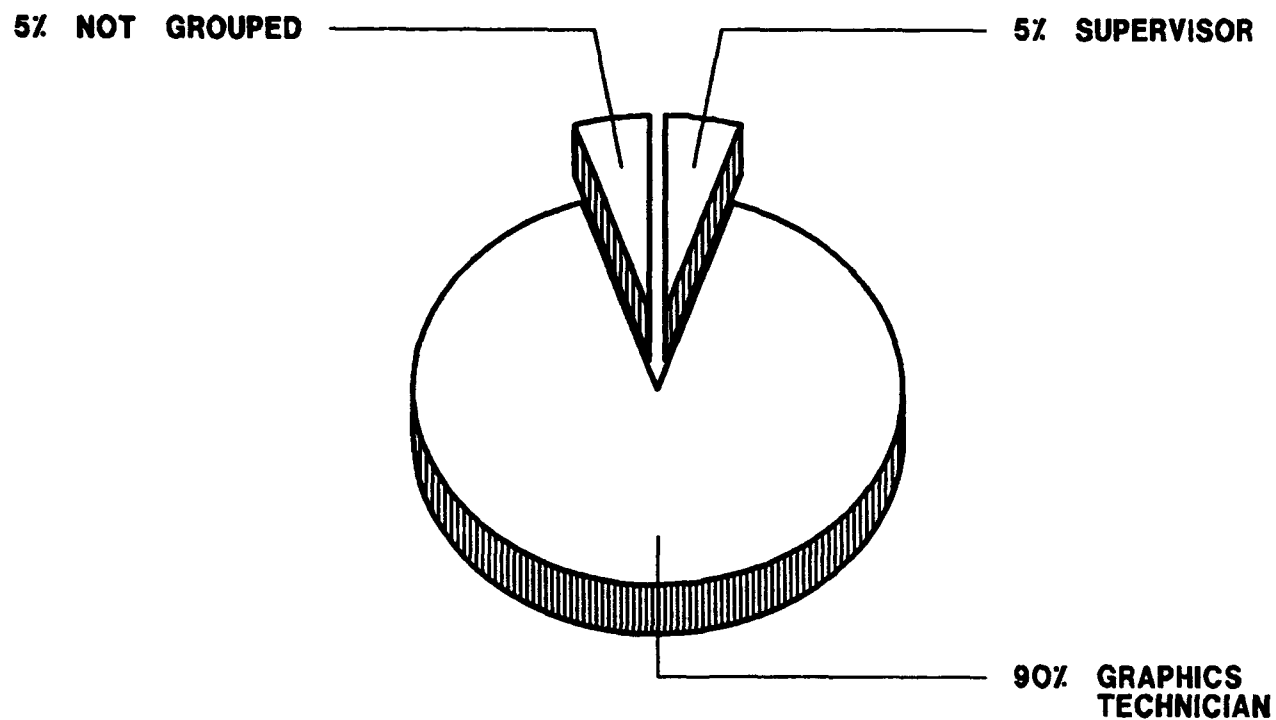

Figure 1
Based on the similarity of tasks performed and the amount of time spent performing each task, two clusters were identified within the survey sample. Figure 1 illustrates the division of jobs performed by AFSC 231X1 personnel. A listing of these jobs is provided below. Table 3 presents the relative time spent by respondents in each duty. The stage (ST) number shown beside each title references computer-printed information; the letter ("N") stands for the number of personnel in each group.